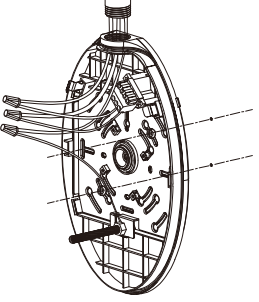

Figure 4
4. Remove the required screw hole covers on the back plate (see Fig. 3). Secure the back plate to the wall (see Fig. 4).